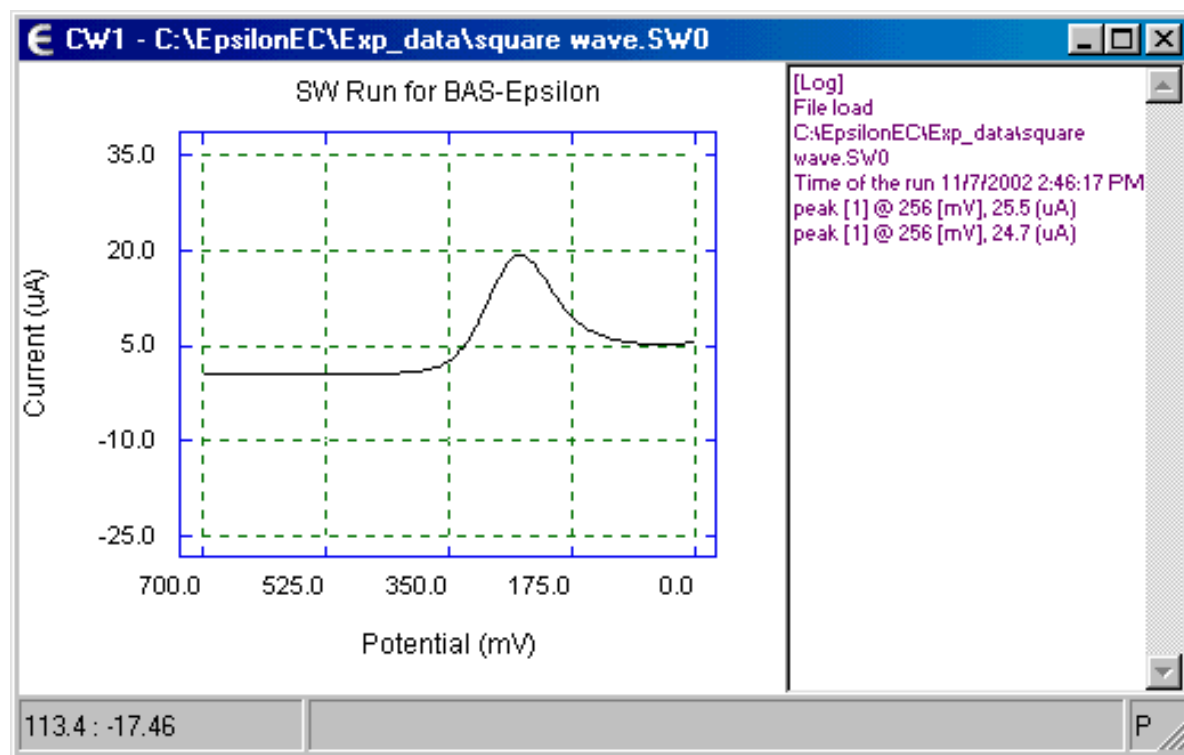

Figure 21. Forward current plot for **Square Wave Voltammetry**.
19. The default plot for a **Square Wave Voltammetry** experiment is the difference current; that is, the current on the forward cycle less the current on the reverse cycle. The forward and reverse currents are also available under **Select Graph** in the pop-up menu in the **Square Wave Voltammetry** experiment window. The forward current data set is shown in **Figure 21**.